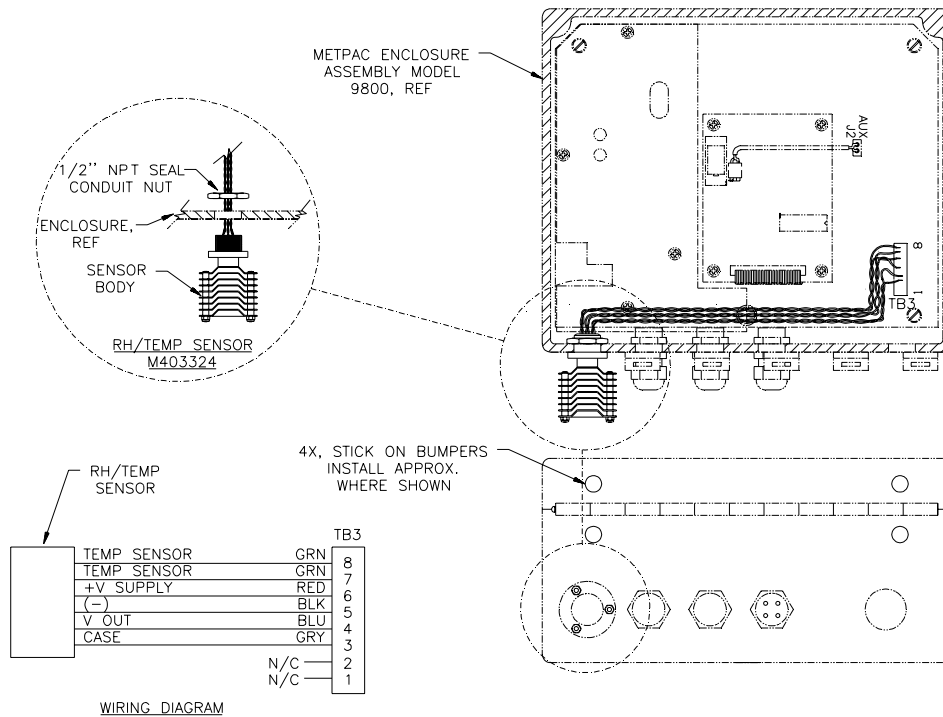

Figure 7
(See **Figure 7**)
- 2 Connect the sensor wires to TB3 on the MetPac motherboard as follows (see **Figure 7**):
- 4 Attach the four stick-on bumpers to the MetPac enclosure door and the underside of the MetPac enclosure in the positions shown in **Figure 7** to prevent the door from damaging the sensor when opened.